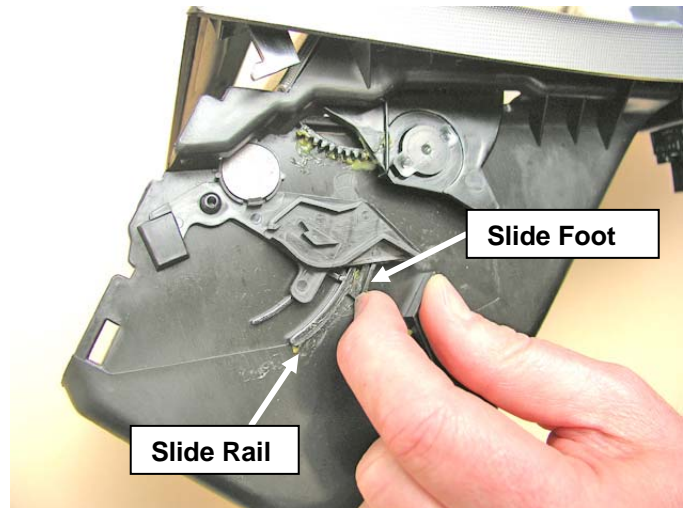

Figure 4
- b. Second, carefully pull down on the Slide Foot and insert it under the Slide Rail (see Figure 4).